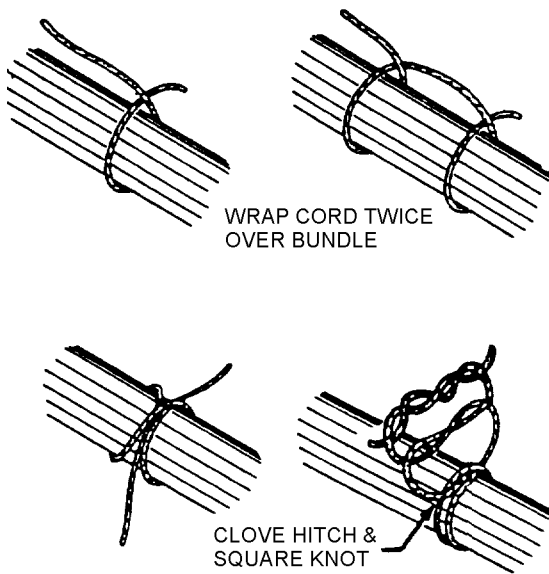

Figure 45. Bundle Ties
a. Wrap cord around wire group or bundle, as shown in Figures 45 through 47.